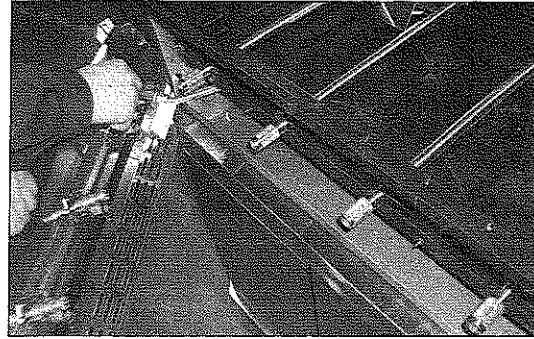

Fig 15
15. Hold the elbow on the rear IR burner valve and use a 3/4" wrench to disconnect the flex line from it. (See Fig. 15)